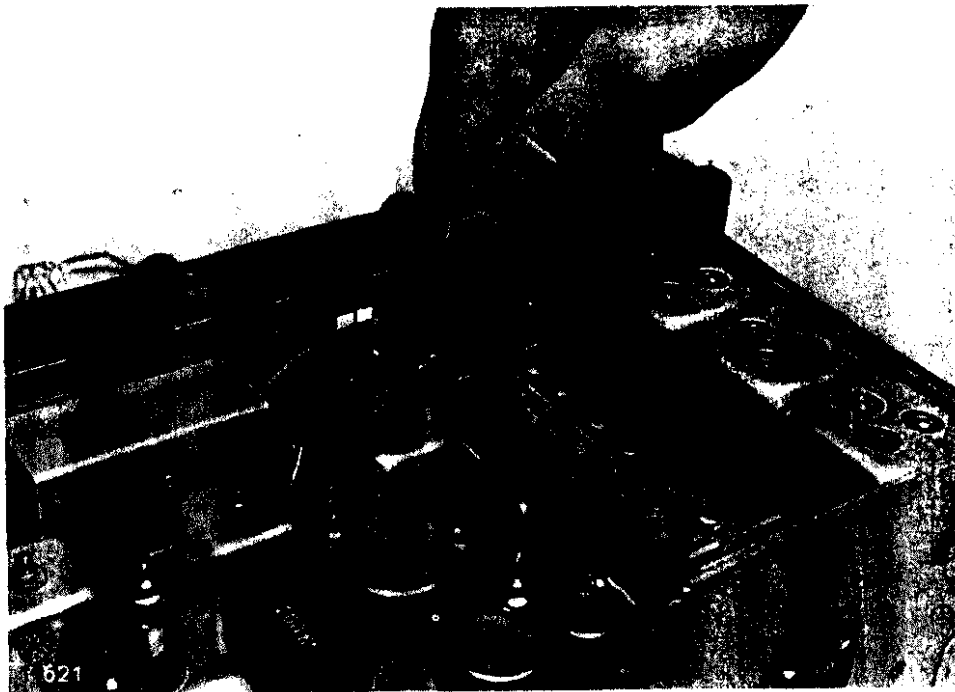

Figure 40. Removing pilot lamp.
c. There is only one crystal to be inserted. To remove the crystal, insert a screw driver between bias cell BT1 and capacitor C55 and gently pry the crystal upward, and, at the same time, pull it with the fingers. The dial light lamp may be removed by using the pilot lamp extractor contained in Case: Box BX-53-GY of carrying Bag BG-172-GY (fig. 40). Always remove the pilot lamp from the extractor by pulling on the glass bulb and not the brass bayonet pin base.